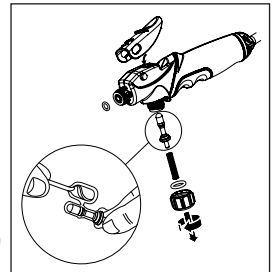

Figure 5
4. Inspect check valve in bottom of cylinder. If worn or damaged, remove and replace by pressing into hole in bottom of barrel. (See Figure 5)